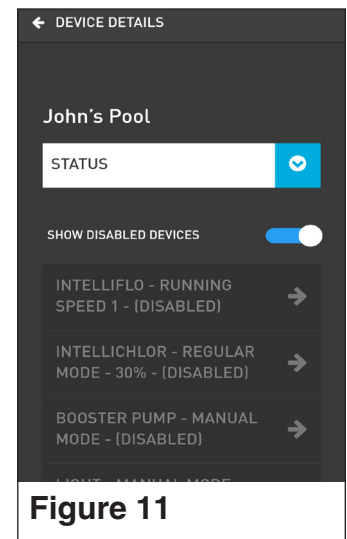

Figure 11
3. System components wired to the IntelliConnect will not initially show up on this screen. To show all wired system components, slide the "Show Disabled Devices" toggle to ON position. See **Figure 11**.